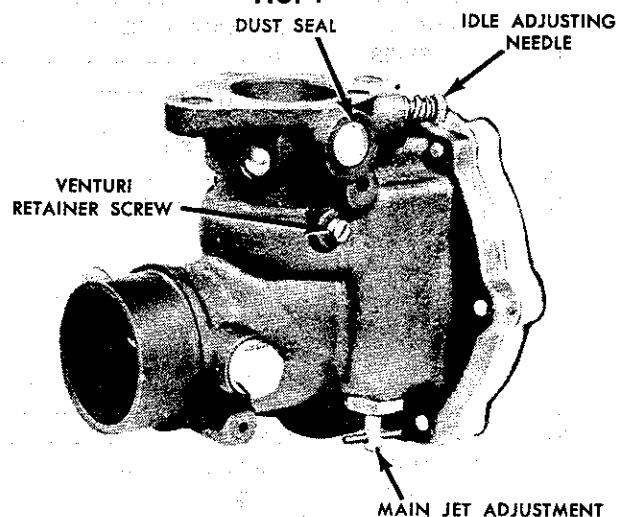

FIG. 5
5. Take out venturi retainer screw and remove venturi. Fig. 5.
7. Remove idle adjusting needle and spring. Fig. 5.
13. Remove adjusting needle from main jet adjustment. Fig. 5.
14. Use a $\frac{5}{8}$ " socket wrench to remove main jet adjustment body. Fig. 5.